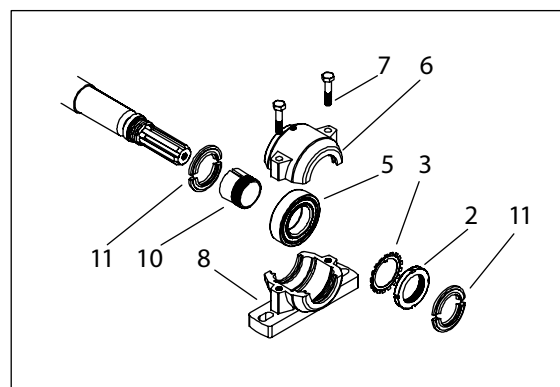

Fig. 29. Bearing, splined shaft side
The bearings at the feeder side and splined shaft side are different from each other. The bearing at the splined shaft side, Fig. 29., does not have spacer rings (4 and 9) and an end plate (1). The bearing at the splined shaft side has dust covers on both sides (11).